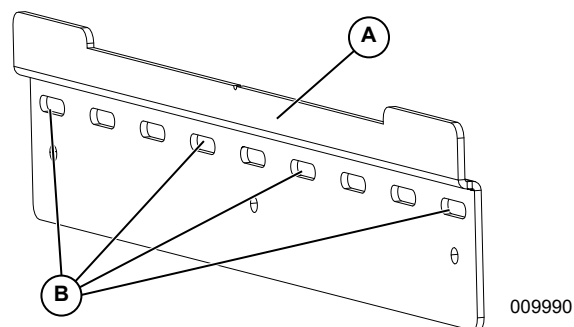

Figure 4-2. Installing Mounting Bracket
3. See Figure 4-2. Secure bracket (A) to mounting surface. Fasteners must engage at least two studs or other structural members.